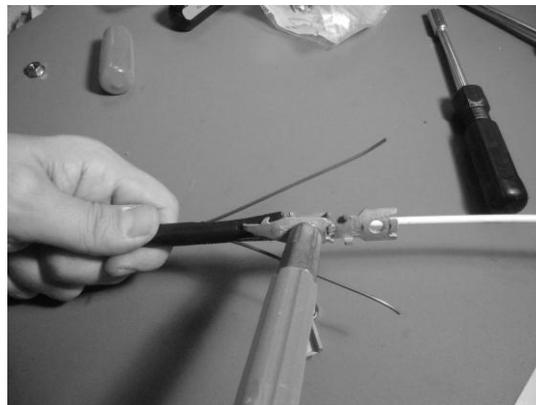

Figure 4 - Assemble connector bottom, extension bracket, and connector top.
2.5 Insert the bottom half of the bond clamp between the plastic guard and the armor. Exercise caution when inserting the bond clamp to prevent damage to the central core tube. Assemble the extension bracket and top half of the bond connector over the stud and tighten with a lock nut (Figure 4).